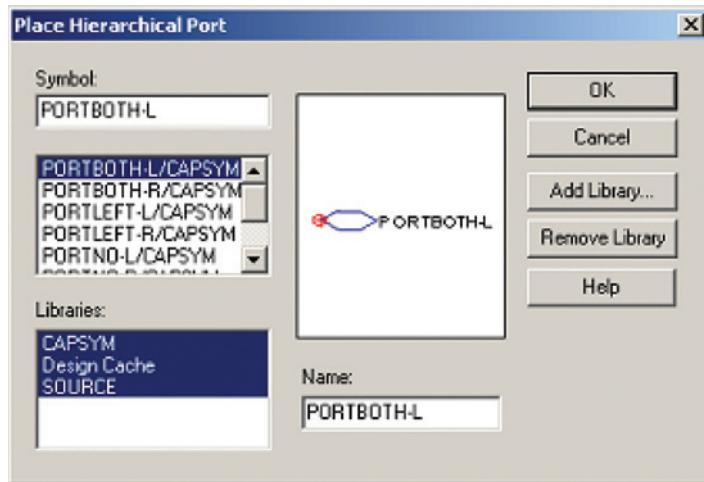

Figure 7-49 Place Hierarchical Port dialog box.
**Add ports to the schematic**, which will serve as the leads of the transformer. Click the Place Port tool, . Select the **PORTBOTH-L** port from the **Place Hierarchical Port** dialog box as shown in Fig. 7-49. All of the port symbols behave identically in Capture, PSpice, and Layout. The only difference is the appearance on the schematic. Since the transformer is a passive device, we will use the symbol that indicates that an applied signal can go either